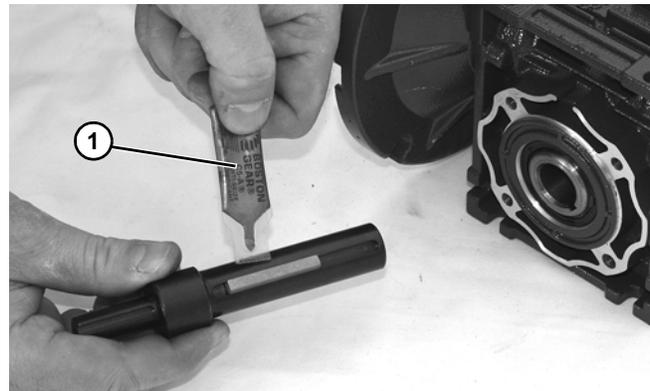

Figure 23
6. Apply anti-seize (**Figure 23, item 1**) to shaft.